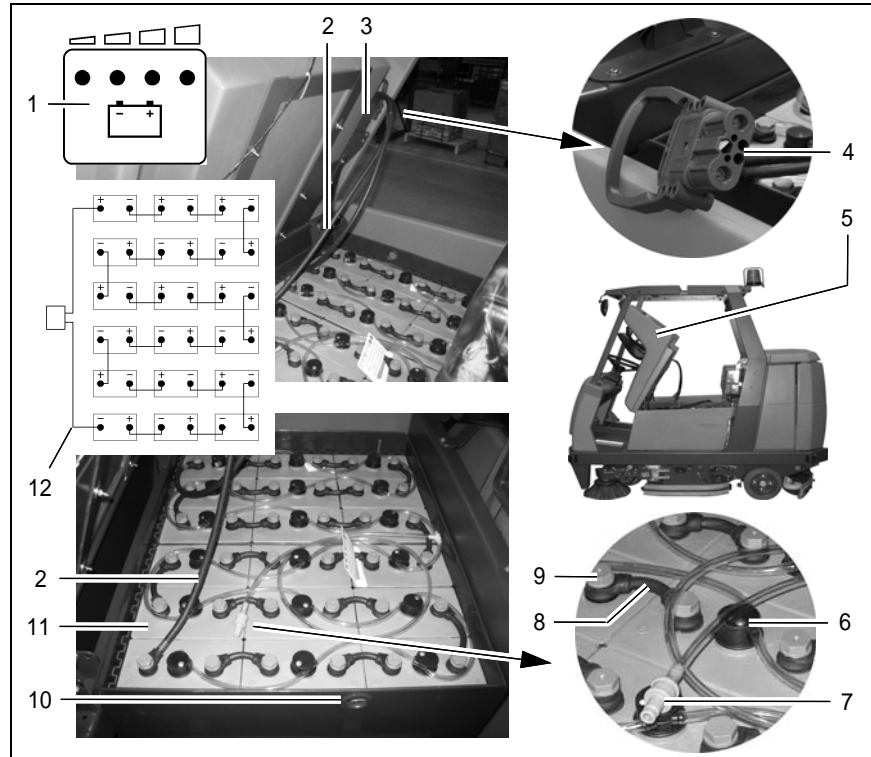

Fig. 23
The seat console (Fig. 23/5) must be open during the battery charging process to prevent the development of explosive oxyhydrogen!
We recommended charging the battery when at least one dot of the battery indicator has gone out after operating the vehicle. The indicator (Fig. 23/1) also indicates the charge status of the batteries during the charging process.
- Connect the battery plug (Fig. 23/4) to the battery charger supplied.
The fill level indicator (Fig. 23/6) on the battery cells ensure that the electrolyte level is maintained: The white dot must be easily visible at the top. If this is not the case, distilled water must be refilled. Topping up the battery is completed via the connection coupling, the aquamatic plug (Fig. 23/7), which is then connected to the water filling device. This is not part of the scope of delivery. Details on the filling process are contained in the manual provided with the water filling device.